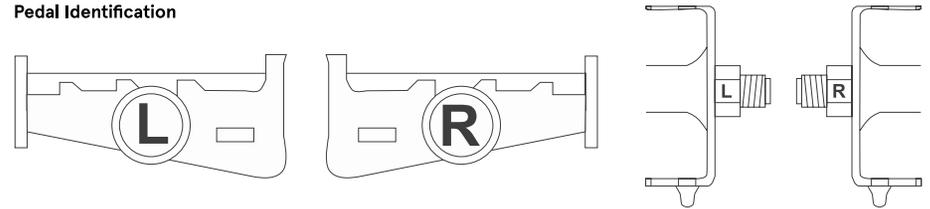
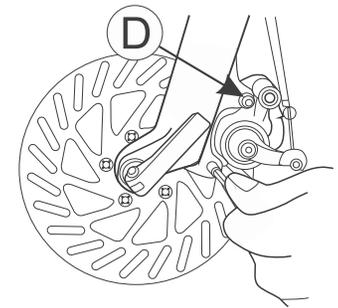

Fig. 14
Fig. 19
Step 5: Installing Pedals (Refer to Fig. 14)
To install new pads, remove the brake caliper from the fork or frame by unscrewing hex bolts D (**Fig. 19**). Unscrew (left/counterclockwise), the smaller hex bolt inside allen bolt B (Fig.14). Lift up and pull the inner pad downward, using the protruding tab. Slide a thin slot screwdriver under the outer pad and lift it up. Hold the screwdriver in this position and remove the pad with a pair of long- nosed pliers.